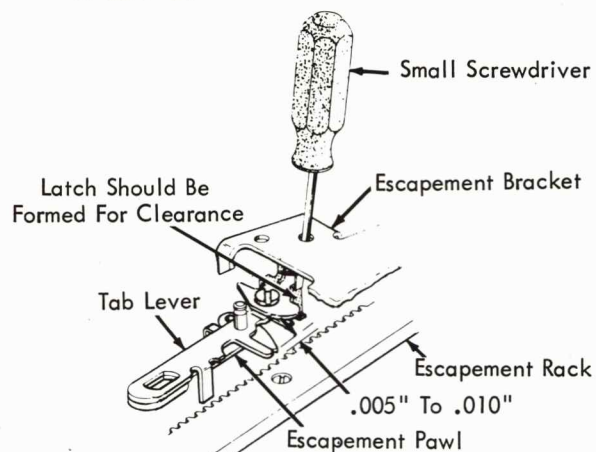

FIGURE 165. Pawl Clearance Adjustment
7. Pawl Clearance (Fig. 165) - The upright lug of the tab latch should be formed forward or back so that the tip of the escapement pawl clears the escapement rack teeth by .005" - .010" when the tab lever is latched to the rear.